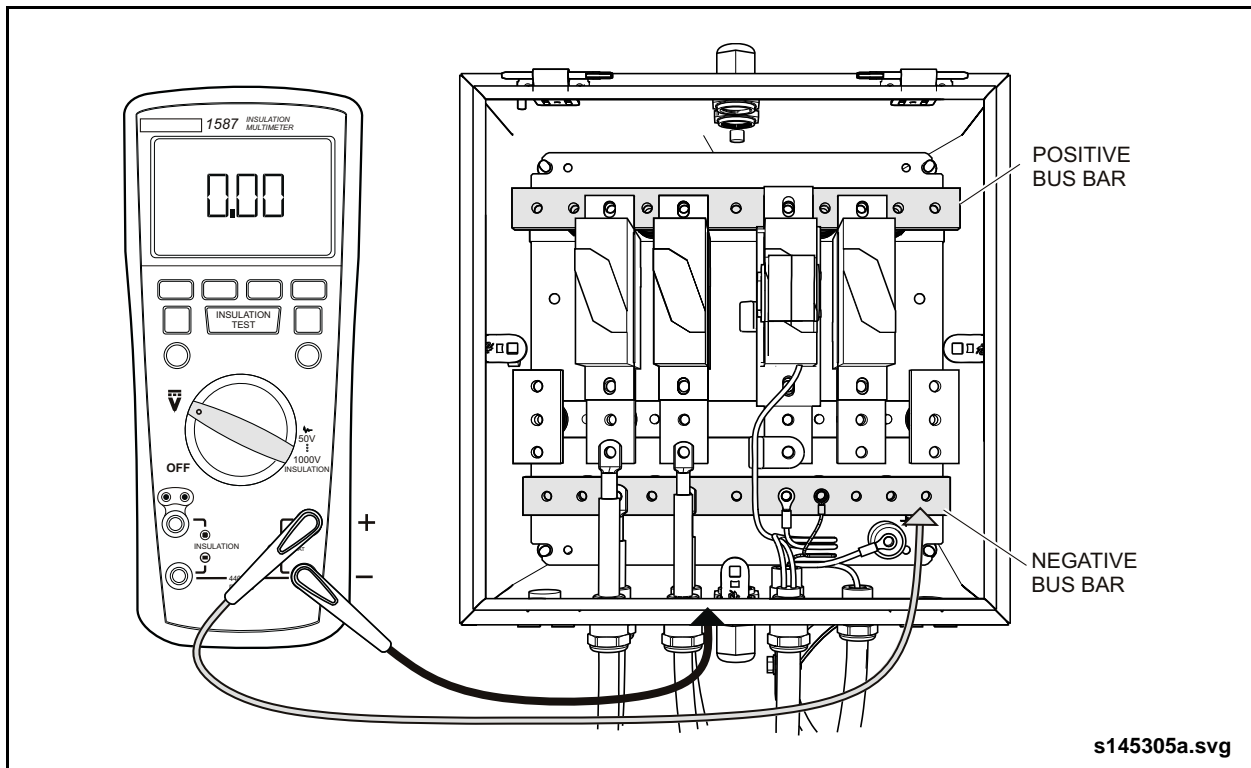

Fig. 5: High Voltage Verification - 3
- c. Measure from the ground bar to the grounded enclosure or roof rack structure. See “Fig. 5: High Voltage Verification - 3” on page 5.